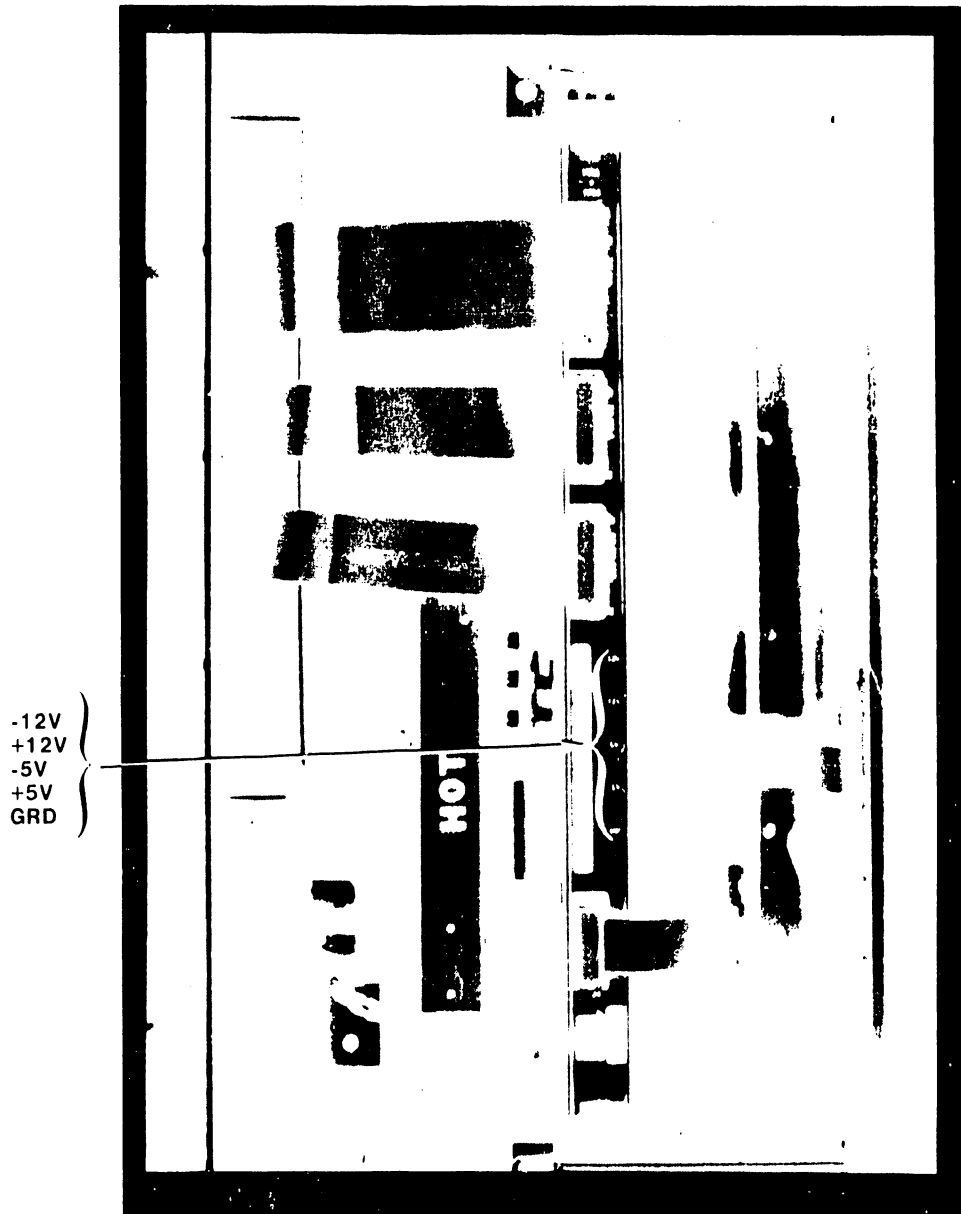

FIGURE 5-1 VOLTAGE TEST POINTS
- a. Check the entire TCP unit by running the power-up diagnostics defined in paragraph 5.6 and check all voltages. The voltage measurement test points are located on the mounting bracket of the TC-B1 board (See Figure 5-1).